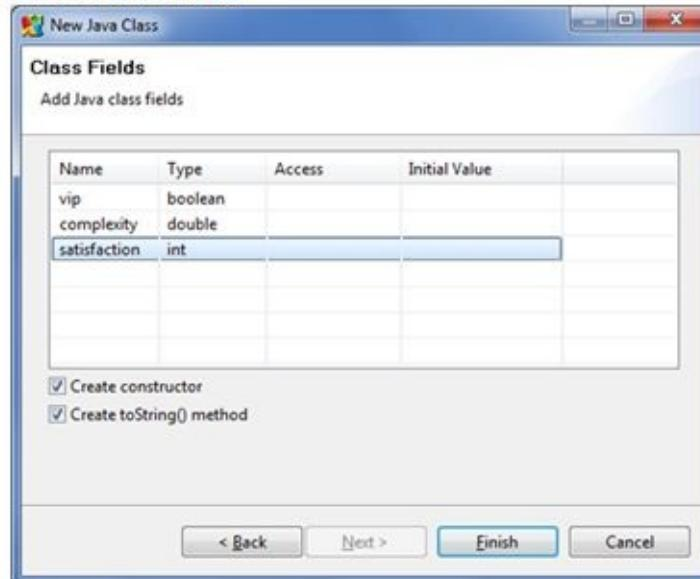

Figure 10.19 Using AnyLogic wizard to create a new Java class
1. Right-click the model item in the **Projects** tree (the topmost one) and choose **New | Java class** from the context menu. The **New Java Class** wizard is displayed, as shown in Figure 10.19.